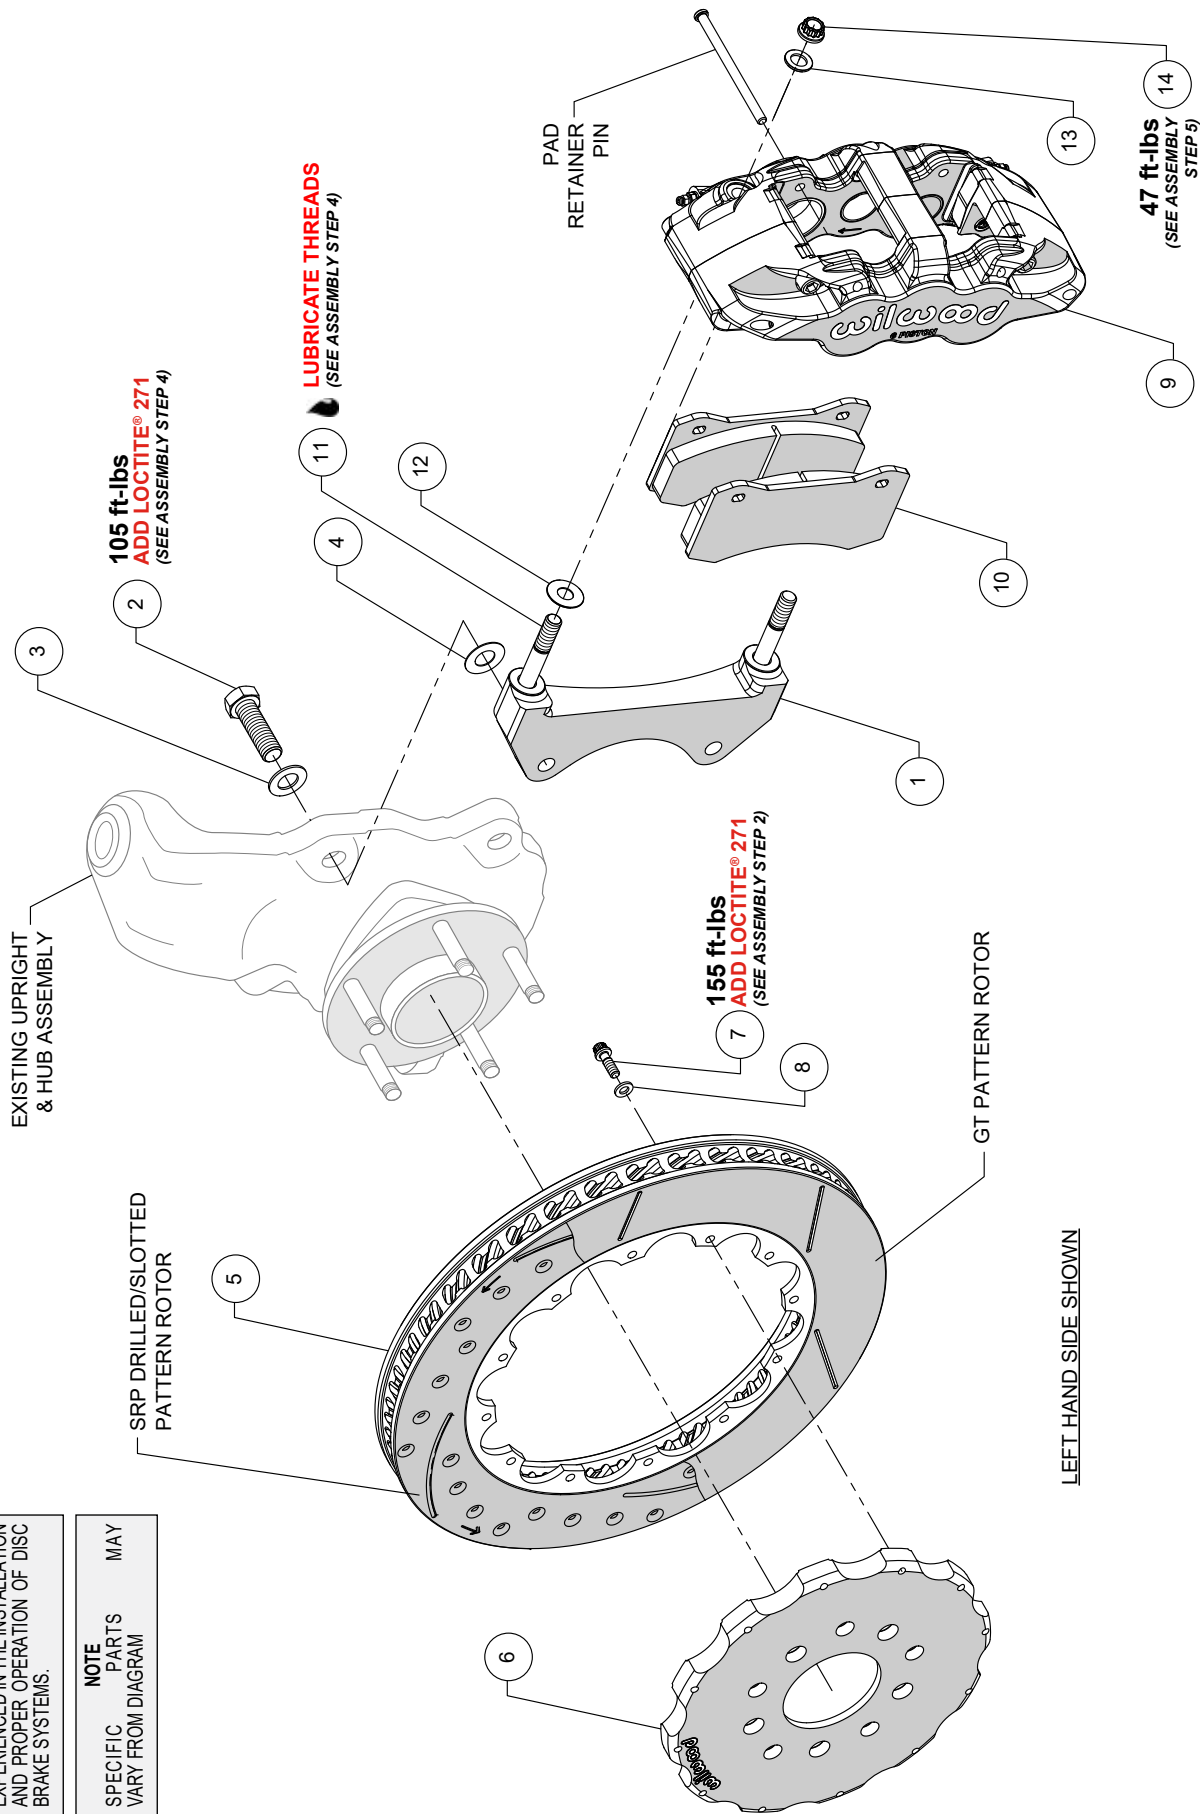
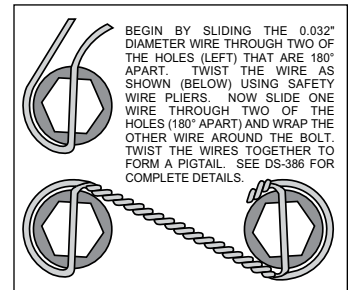

Figure 1. Typical Installation Configuration
Figure 2. Safety Wire Diagram
NOTE: Numbers in parenthesis refer to the parts list and Figure 1 on the preceding pages.
STEP 1 The caliper mount bracket (1) should initially be installed with clean, dry threads on the mounting bolts. Orient the bracket, as shown in Figure 1 and install using bolts (2) and washers (3), Photo 1. Initially place one .029" thick shim (4) on each bolt between the bracket and upright, Figure 1. Temporarily tighten the mounting bolts. **NOTE:** The bracket must fit squarely against the mount bosses on the upright, Photo 2. Inspect for interference from casting irregularities, machining ridges, burrs, etc. Later, after the caliper alignment has been checked, the mount bolts will be secured using red *Loctite*® 271.
STEP 2 Orient the rotor (5) and the hat (6) as shown in Figure 1 and Photo 3. Attach rotor to hat using bolts (7) and washers (8). Apply red *Loctite*® 271 to the bolt threads and torque to value shown in Figure 1 using a criss-cross pattern. For an added measure of security, the bolts may be safety wired using standard 0.032 inch diameter stainless steel safety wire as shown in Figure 2. Refer to Wilwood's data sheet DS-386 (available at www.wilwood.com/pdf/DataSheets/ds386.pdf) for complete safety wire installation instructions.
STEP 4 NOTE: This kit contains distinct right and left hand calipers that must be mounted in a specific direction, as described below. Lubricate the caliper mounting studs (11) with lightweight oil. Initially place one .030" thick shim (12) on each stud between the caliper and the bracket, as shown in Figure 1 and Photo 5. Mount the caliper (9) onto the bracket (1) using lock nuts (14) and washers (13), Figure 1. Temporarily tighten the lock nuts. Ensure that the caliper is mounted so the largest pistons are at the rotor exit end of the caliper, in relation to the direction of the rotor. View the rotor through the top opening of the caliper. The rotor should be centered in the caliper, Photo 6. If not, adjust by adding or subtracting shims (4) between the bracket and the upright. Always use the same amount of shims on each of the two mounting bolts. Once the caliper alignment is correct, remove the bracket mounting bolts (2) one at a time, apply red *Loctite*® 271 to the threads, and torque to value shown in Figure 1.
STEP 5 Remove the caliper, then remove the two pad retaining pins from the caliper by carefully popping out the pin retaining clips and sliding out the pins. Insert the brake pads (10) into the caliper from the bottom, with the friction material facing the rotor, as shown in Photo 7. Secure the brake pads in place with the pad retaining pins and clips, Figure 1 Photo 8.
STEP 6 Reinstall the caliper and temporarily tighten the locknut. Check that the top of the brake pad is flush with the outside diameter of the rotor, Photo 9. If not, adjust by adding or subtracting shims (12) between the caliper and the bracket. After the caliper pad height is set, torque the caliper lock nuts (14) to value shown in Figure 1.